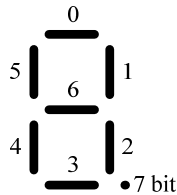

Fig. 2. Seven-segment display and numbers of its bits
6. Output the data byte to the seven-segment display (Fig. 2).